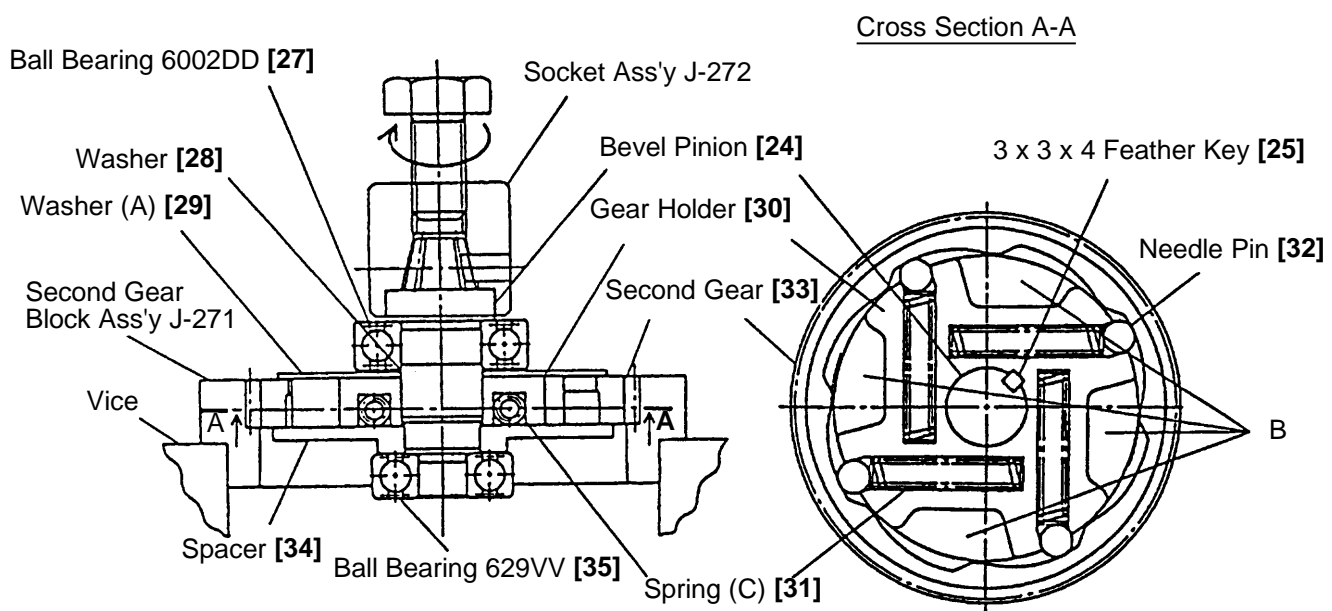

Fig. 18
Next, install the Second Gear [33] on the outer circumference of the Gear Holder and place the Needle Pins [32] without inclination as indicated in Fig. 18, then press in the Spring (C) [31]. Fill the spaces "B" in Fig. 18 with No. 29 power tool grease, 2 g for each (8 g in total) and press in the Spacer [34] and then Ball Bearing 629 [35].